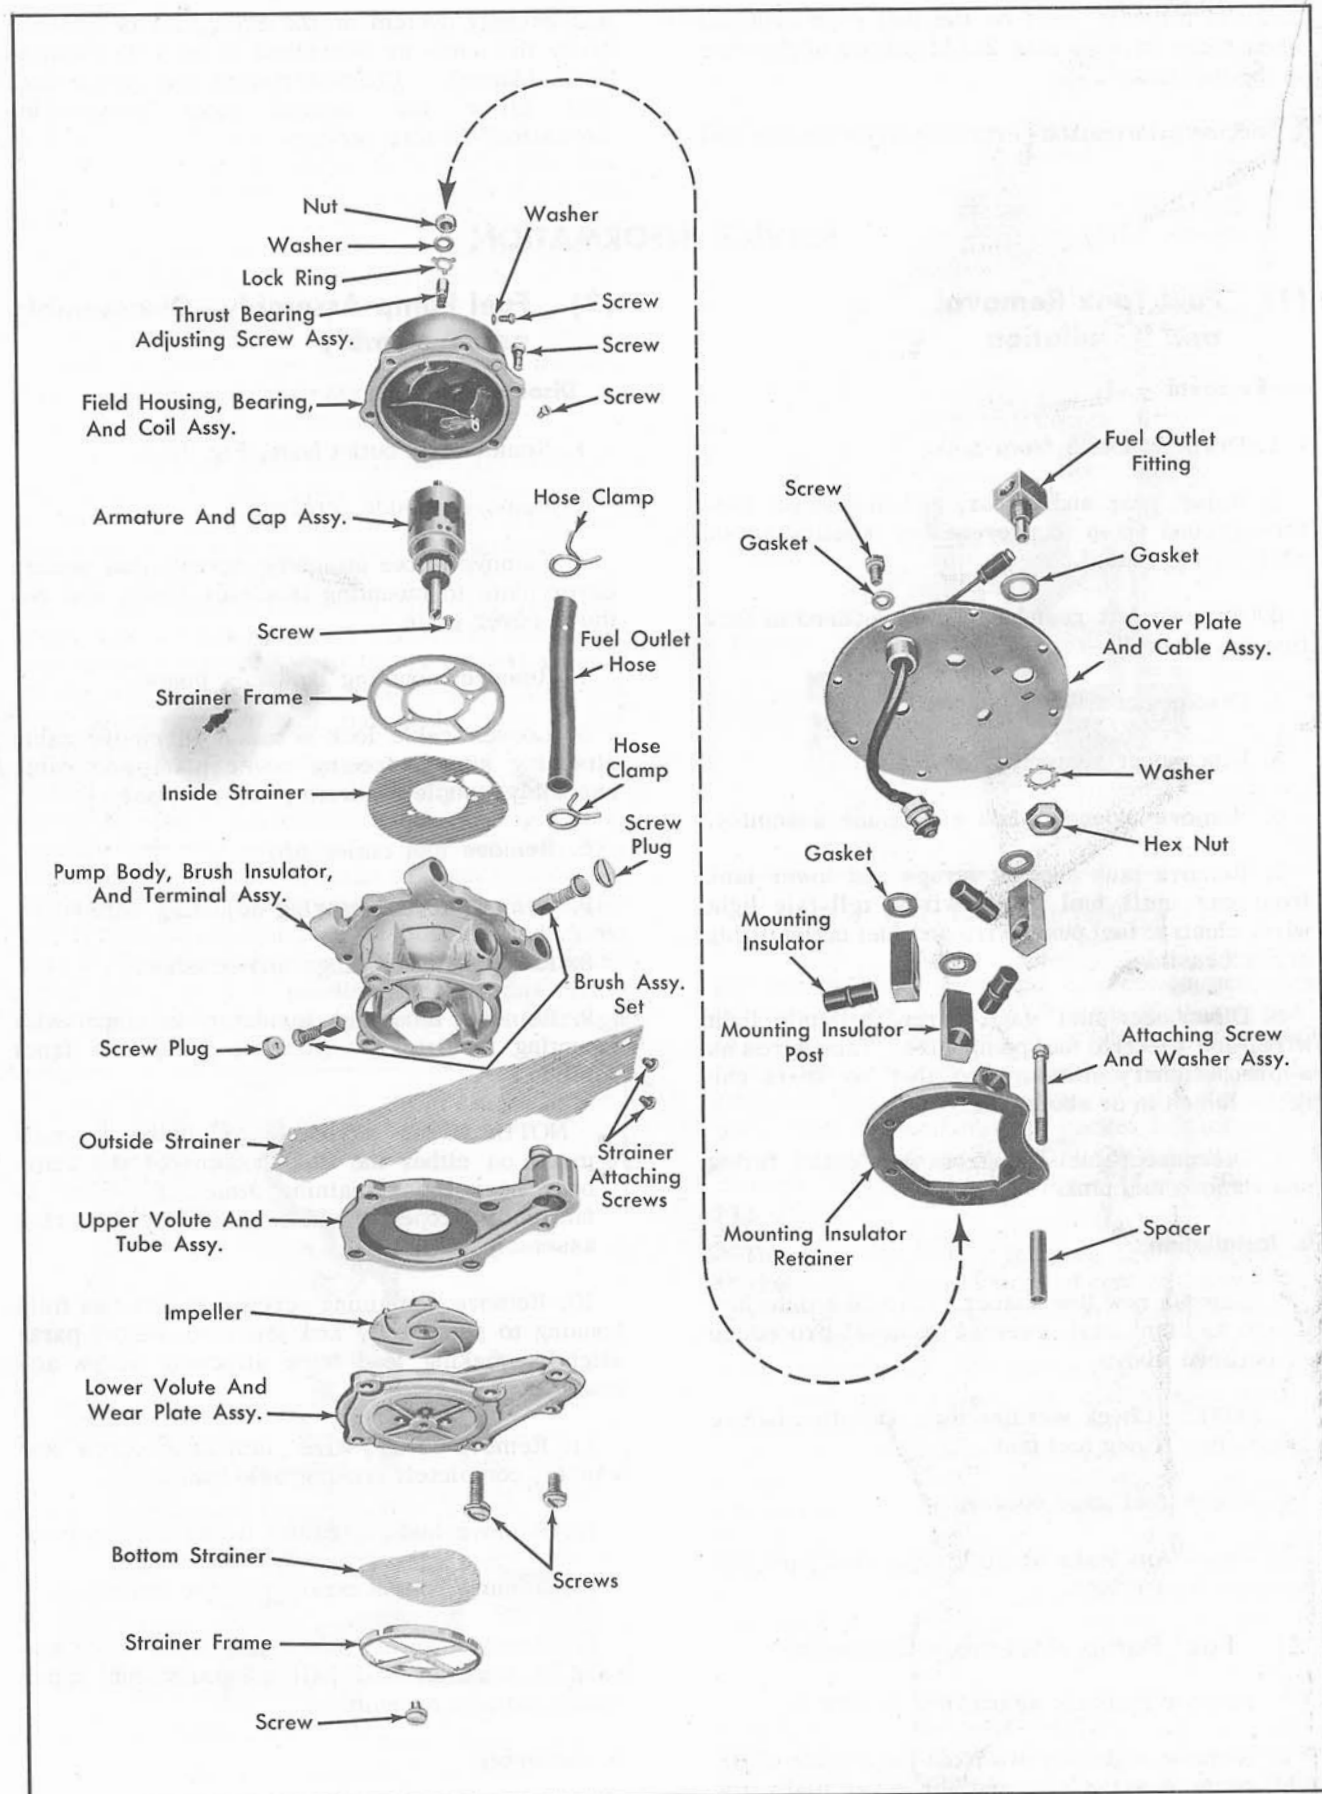

Fig. 10-3 Fuel Pump Disassembled
1. Remove fuel outlet hose, Fig. 10-3.